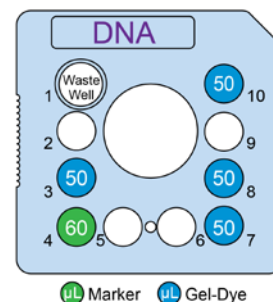

Figure 1. Reagent Placement for small-batch (up to 24 samples)
7. Using a Reverse Pipetting Technique, add gel-dye to chip wells 3, 7, 8, and 10 as shown in **Figure 1** (small-batch) or **Figure 2** (high-batch).
8. Add Genomic DNA Marker to chip well 4 as shown in **Figure 1** (small-batch) or **Figure 2** (large batch).